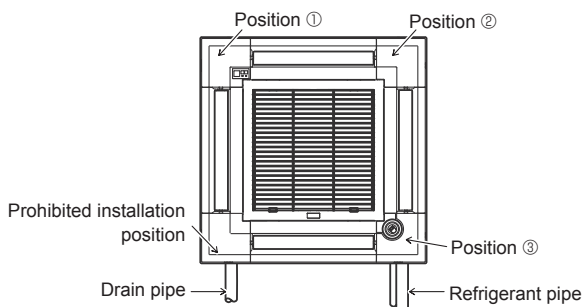

Fig. 6-11
The signal receiver corner panel can not be installed on the drain pipe side for the main unit. (Refer to Fig. 6-11)
- The i-see Sensor corner panel should be fixed onto the grille ① with screw ③.
- \* If the position of the i-see Sensor was changed from default position (position ③) to the other position, change the function settings. (Fig. 6-11)
- The i-see Sensor corner panel can not be installed on the drain pipe side for the main unit. (Refer to Fig. 6-11)